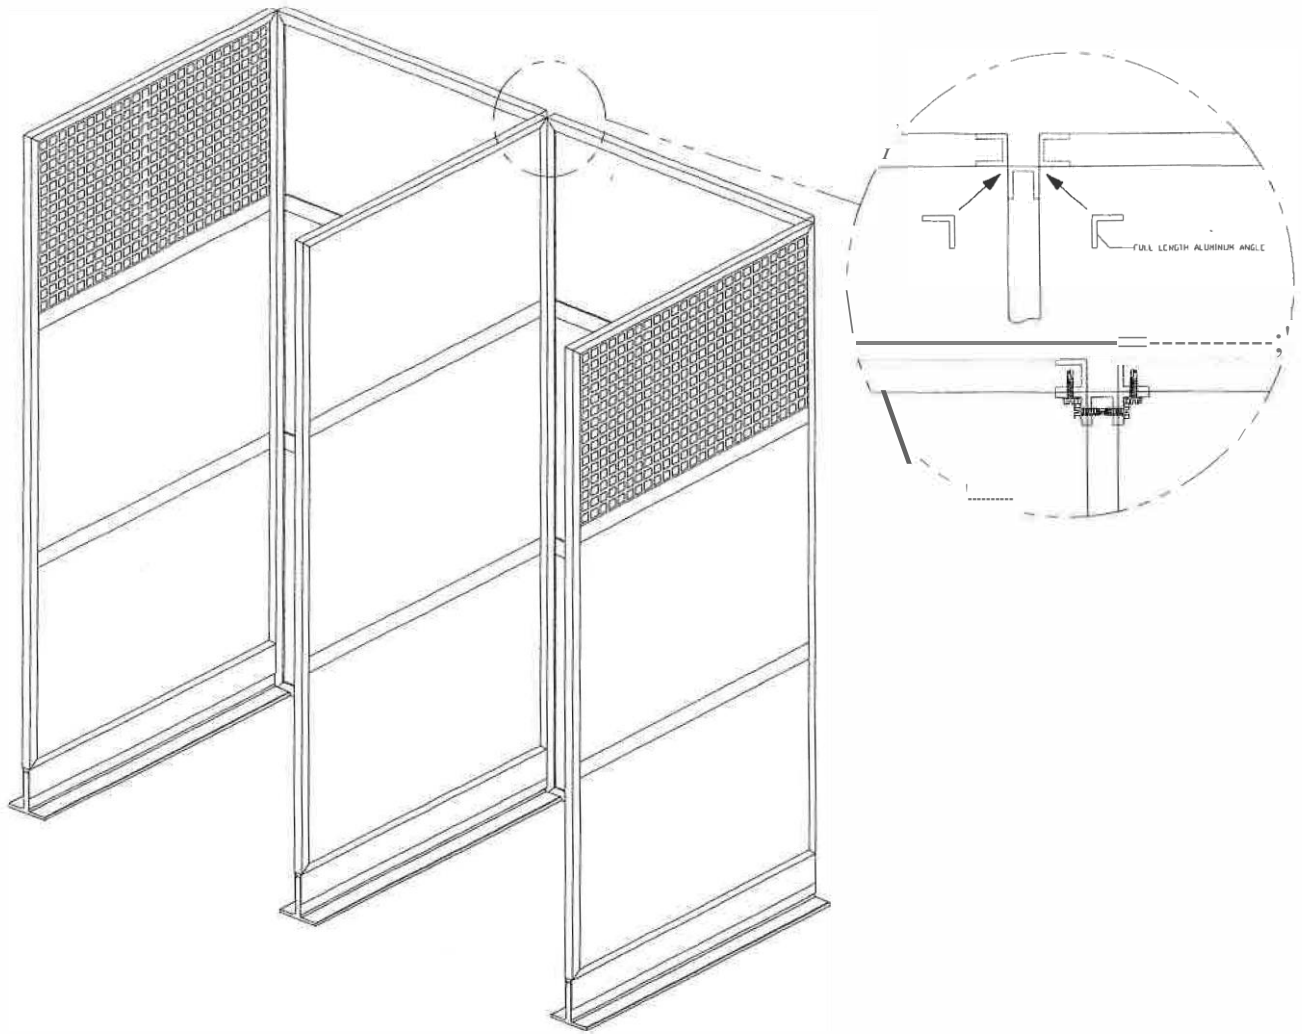

Figure 6
9. Position the next division panel in place and connect with the #10-32 x 5/8" TEK screws provided. See Figure 6.